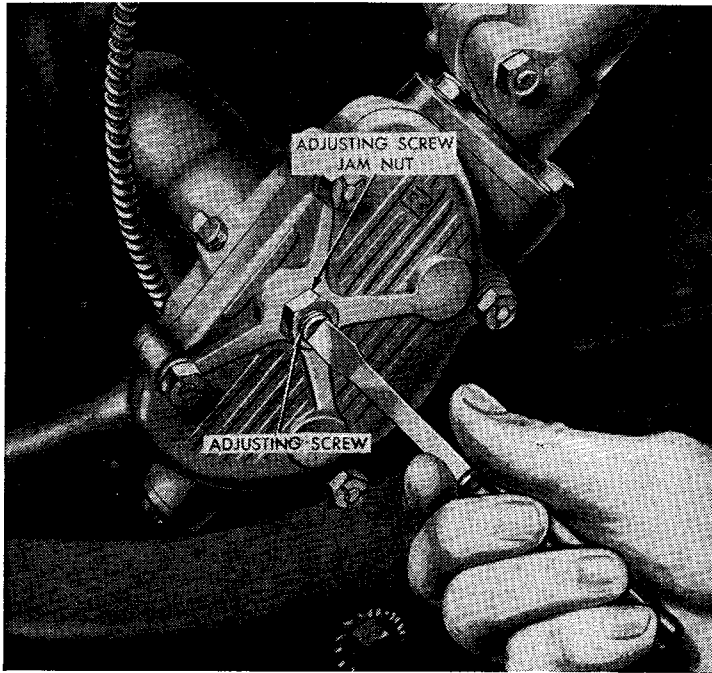

Figure 155. Pitman arm shaft adjustment.
- (3) Loosen the Pitman shaft adjusting screw jam nut (fig. 155) and tighten the Pitman shaft adjusting screw. Back off on the adjusting screw one-half turn and tighten the jam nut.
- (4) Turn the steering wheel one-half turn to the right and then back to the left. As the mark on the wheel passes the mark on the windshield, a slight drag should be felt. If no drag is felt, repeat the adjustment ((3) above), backing off the adjusting screw less than one-half turn.
- (5) Connect the drag link assembly to the Pitman arm (par. 227b(1)).